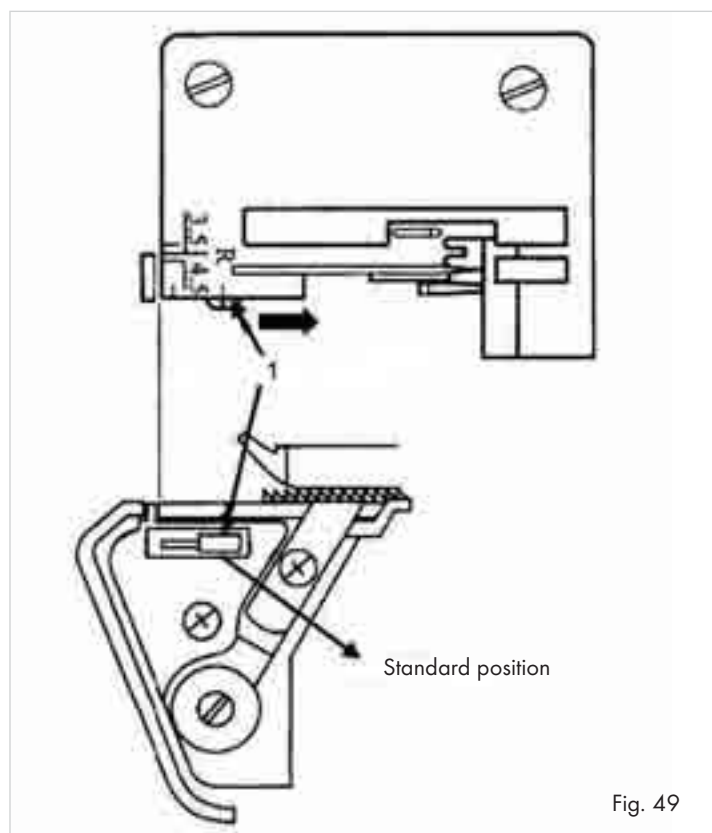

Fig. 49
- Open the front flap ⑩.
- Slide the seam width switch ⑳ to "S", so that the seam width finger is pushed forward (1) (Fig. 49).
① **Note:**